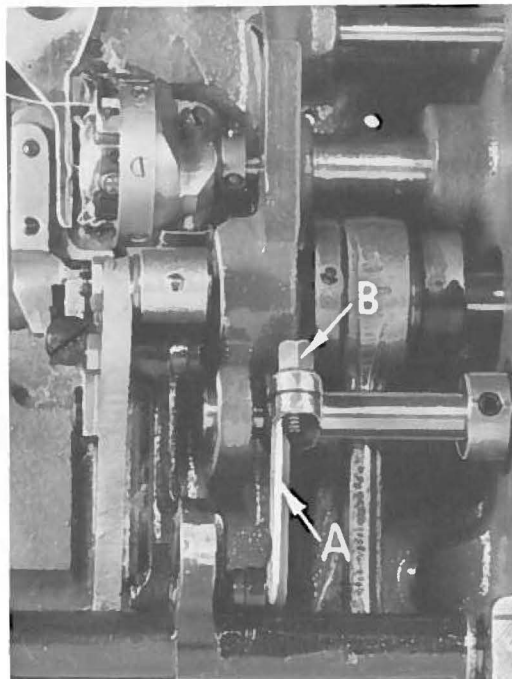

Fig. 10
3. The reverse feed travel can be changed by adjusting the stitch control lever (A, Fig. 10). This can be accomplished by tipping the machine back against the rest pin and loosening clamp screw (B). When the machine is in this position move the control lever (A) toward you to increase the reverse feed travel or away from you to decrease the travel. Retighten clamp screw (B) after making an adjustment and check the stitch length in both directions.